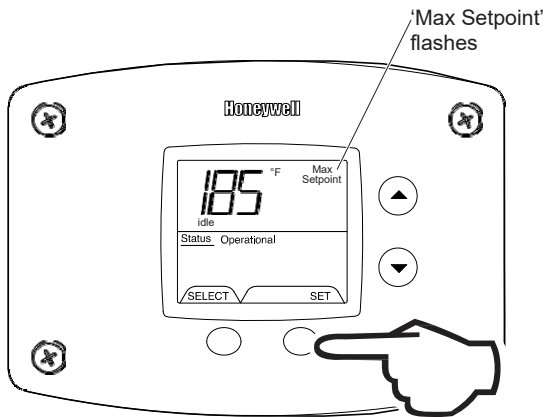

Fig. 52
2. Press 'Set' button to enter setting mode. 'Max Setpoint' will flash to indicate setting mode (Fig. 52).